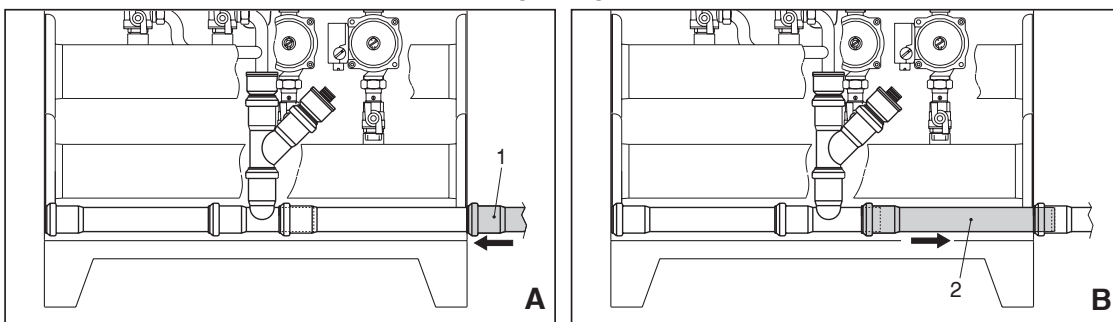

Fig. 7
- Connect a pipe Ø40 to the condensate outlet pipe to evacuate the condensate produced during operation (see Fig. 7).